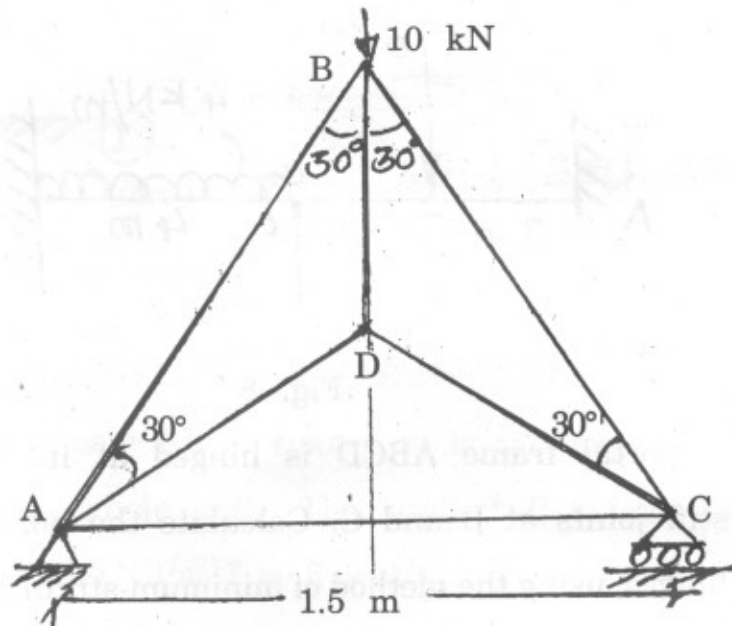

Fig. 10
5. A truss is loaded as shown in Fig. 10. Determine the horizontal deflection of roller C. Take  $E = 200$  GPa cross-sectional area of members AB and BC is  $1000 \text{ mm}^2$  and members AD, BC, CD is  $500 \text{ mm}^2$ . [16]